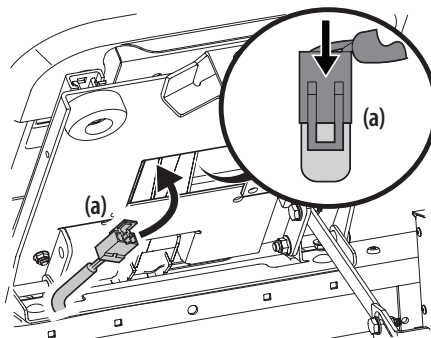

Figure 2-9
4. Insert the wiring harness (a) into the bottom of the seat as shown in Figure 2-9.
Note: When the wiring harness (a) is connected, be sure to push the excess wire from the wire harness (a) into the seat box hole before continuing. See Figure 2-9.